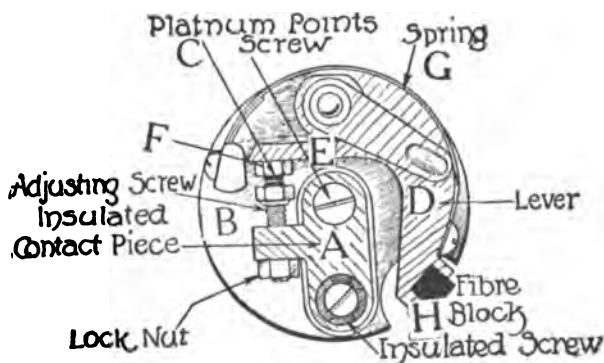
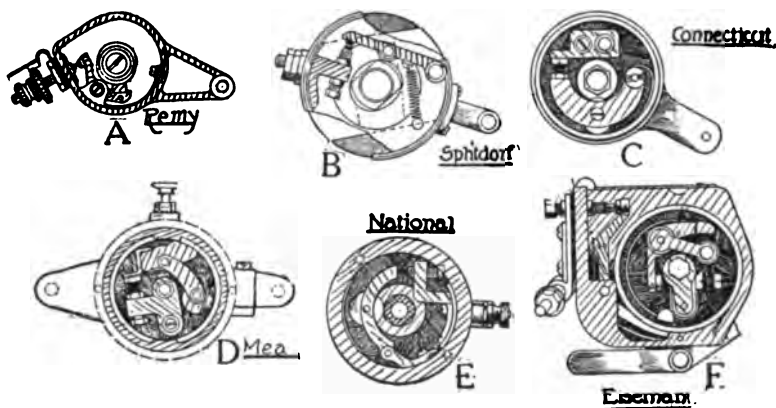

Fig. 1
Fig. 2
A magneto which is very widely used on all types of gas motors is the *Bosch*. The breaker-box of this magneto is shown in Fig. 1, and consists of an insulated piece (A) to which is attached the adjusting-screw (B), with a platinum point (C). Near this piece is a lever (D) with an arm (E), to which another platinum point (F) is attached so that it bears upon the point (C) by the pressure of the spring (G). At the other extremity of the lever is a block of fiber (H) which presses upon a projection outside of the mechanism as the magneto shaft revolves. This is so placed that when the motor is in the firing position for a cylinder the moving projection presses upon the fiber block and breaks the contact of the platinum points, thus interrupting the current and causing a spark at the plugs.
A different arrangement is used in the Remy, Splitdorf, Connecticut, Mea, National, Eiseman, and other magnetos, some of which are shown in Fig. 2. In these breakers the platinum points are separated and the current broken by the action of a cam on the armature shaft pressing on a lever which is held in position by a spring.
lock-nuts (Fig. 1), but in the Remy magneto (Fig. 2, A) the adjustment may be made from the outside of the breaker-box while the motor is in operation.